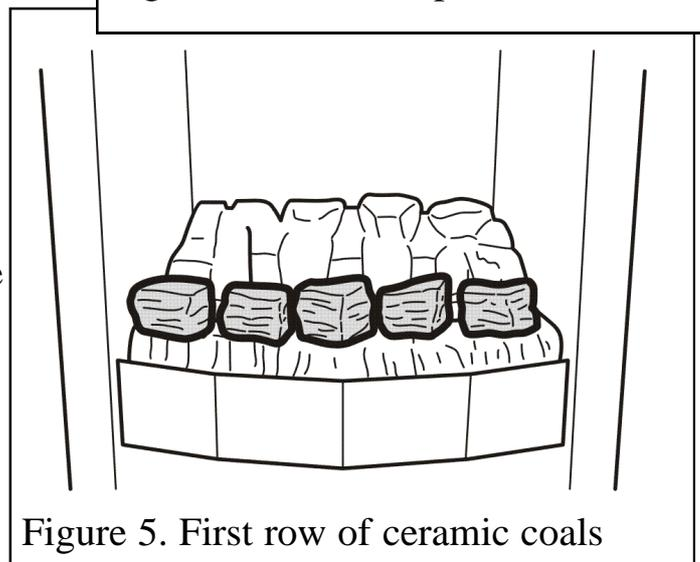

Figure 5. First row of ceramic coals
2. Install the fourteen loose overlay ceramic coals as follows. The smooth surfaces of the ceramic coals should be at the bottom and back. Place five of the ceramic coals along the top of the front base coal (See figure 5). The ceramic coals should be evenly spaced. Each ceramic coal can be rotated to give a random effect. Placing the ceramic coals with flat sides facing forward will give a very uniform appearance.